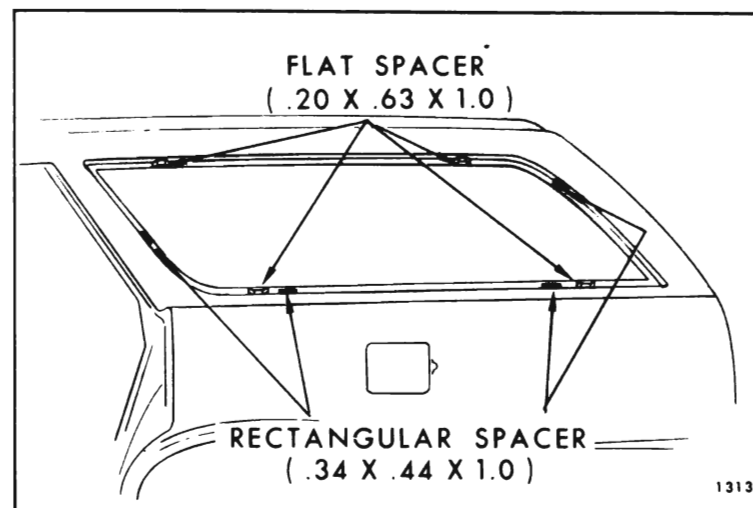

Fig. 8-21—Rear Quarter Window Spacer Installation
2. With black weatherstrip adhesive cement four flat spacers (.20 x .63 x 1.0 - Part No. 4459429 or equivalent) to pinchweld flange; two at top and two at bottom (see Fig. 8-21).
3. With black weatherstrip adhesive cement four rectangular spacers (.34 x .44 x 1.0 - Part No. 4871330 or equivalent) to rear quarter window opening rabbet; two at sides and two at bottom (see Fig. 8-21). Both side spacers should be cemented in the approximate position indicated in Figure 8-21.